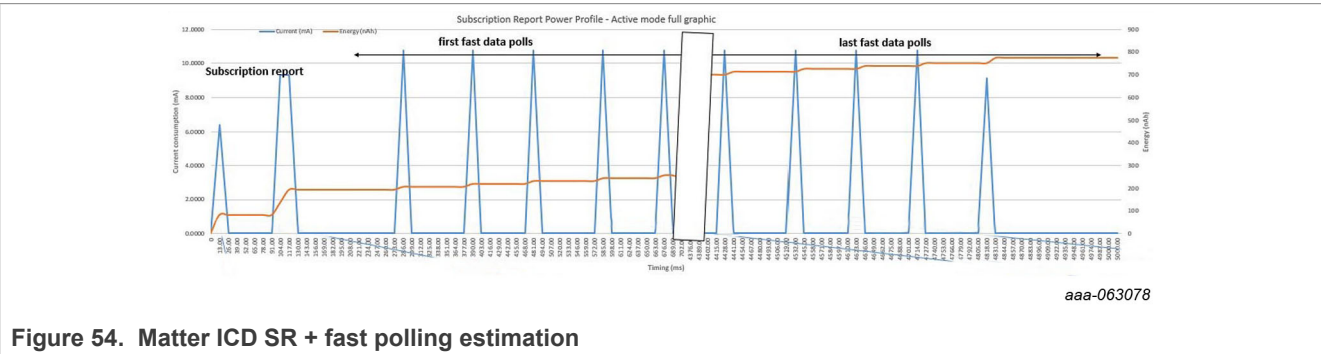

Figure 54. Matter ICD SR + fast polling estimation
- Figure 54 shows a maximum of 10 fast polling events in addition of the subscription report and fast polling.